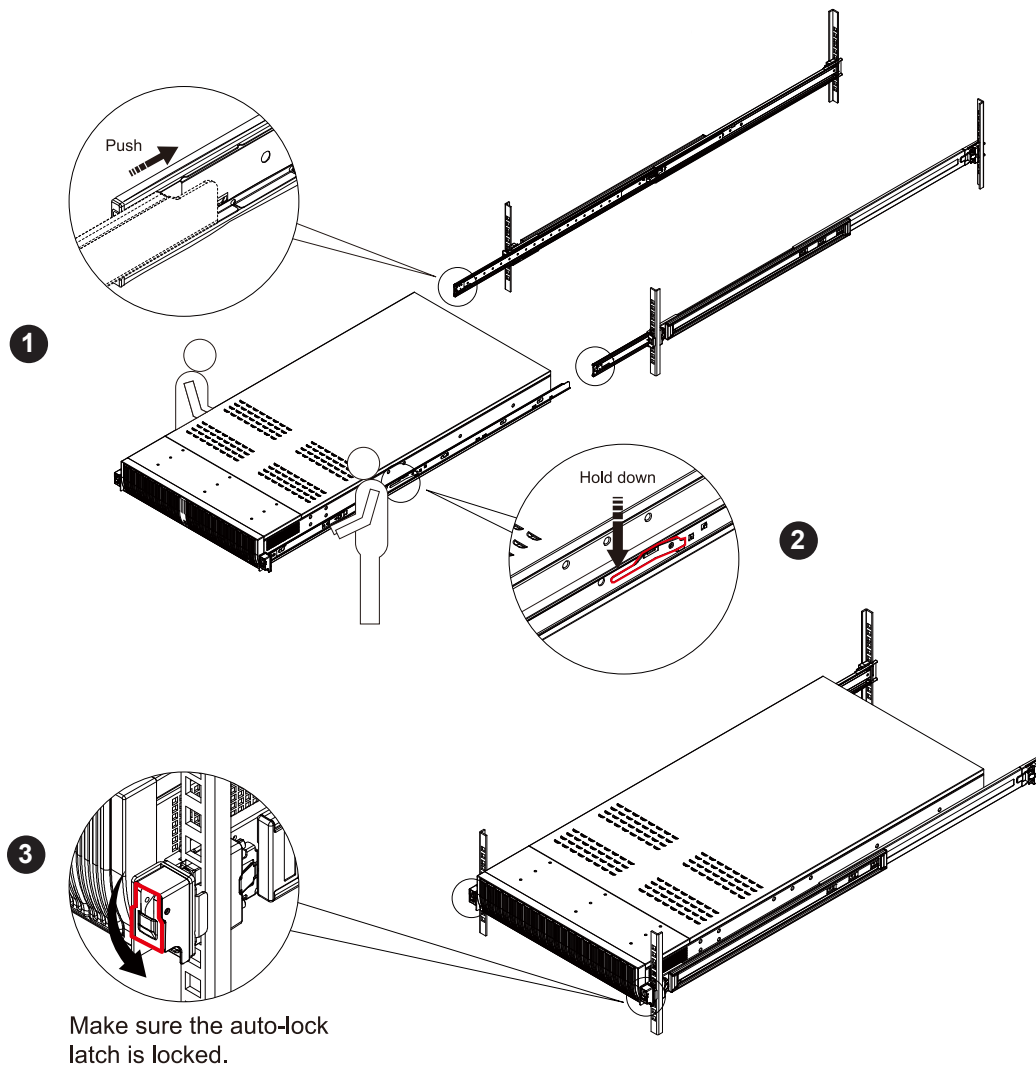

Figure 2-7. Installing the System into a Rack
1. Fully extend the outer rails as illustrated in Figure 2-7.